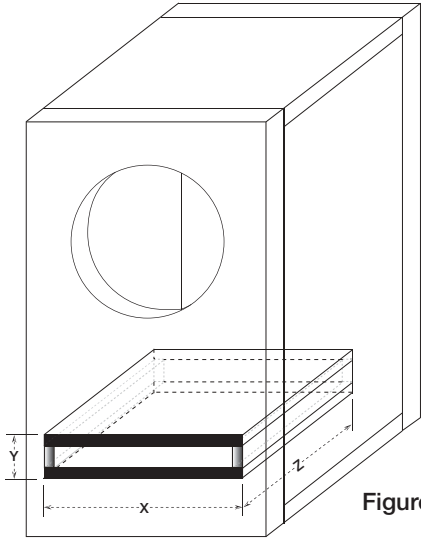

Figure 5
All the cubic feet (L) measurements in this manual include the displacement of the woofer. For the vented enclosures the displacement of the port must be calculated and added to the internal volume of the final design. Use the outer dimensions of the port and multiply “X x Y x Z”, convert to cubic feet, for example the CVT12 vented compact design’s external port dimensions are, using 3/4” (1.9cm) MDF: [(12.5” + 1.5” total MDF wall thickness) x (2.5” + 1.5” total MDF wall thickness) x 20”] x (1 ft3 / 1728 in3) = .65 ft3, and add this number to the internal volume of the enclosure, CVT12’s 1.75 ft3 + .65 ft3 = 2.4 ft3. See Figure 5. Due to the necessary length of these ports, you may want to fold the port along the bottom and back walls. It will be impractical to use round ports for these designs.